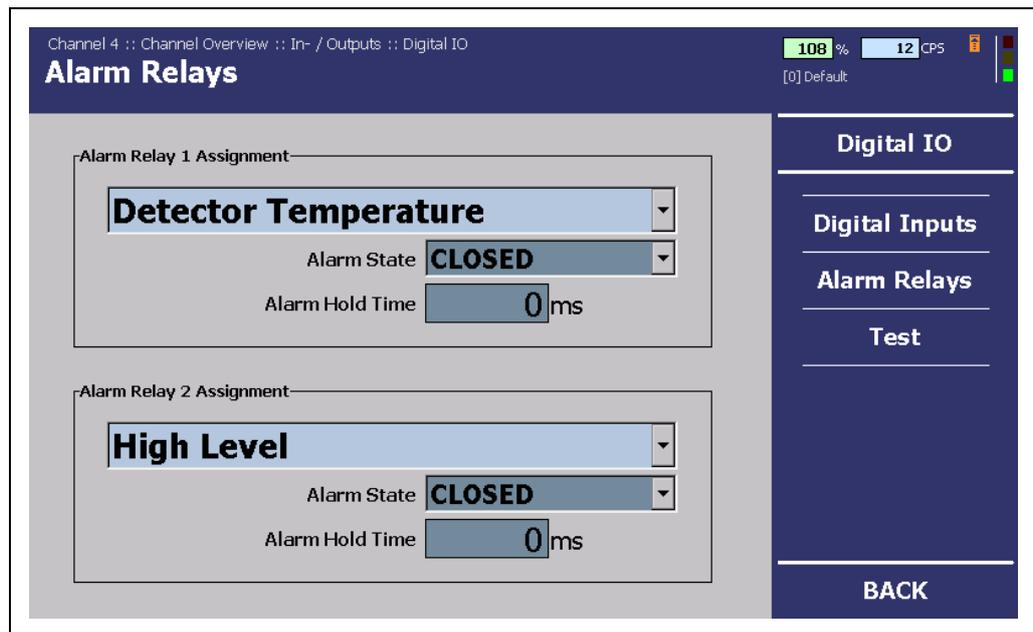

Fig. 70 "Channel Overview" Menu, In/Outputs - Digital IO (Alarm Relay)
2. Click in the "Profibus" input field: Address" (Fig. 70, Item 1).
3. In the input field "**Profibus: Configuration**" enter the address of the bus device (Fig. 70, Item 1).